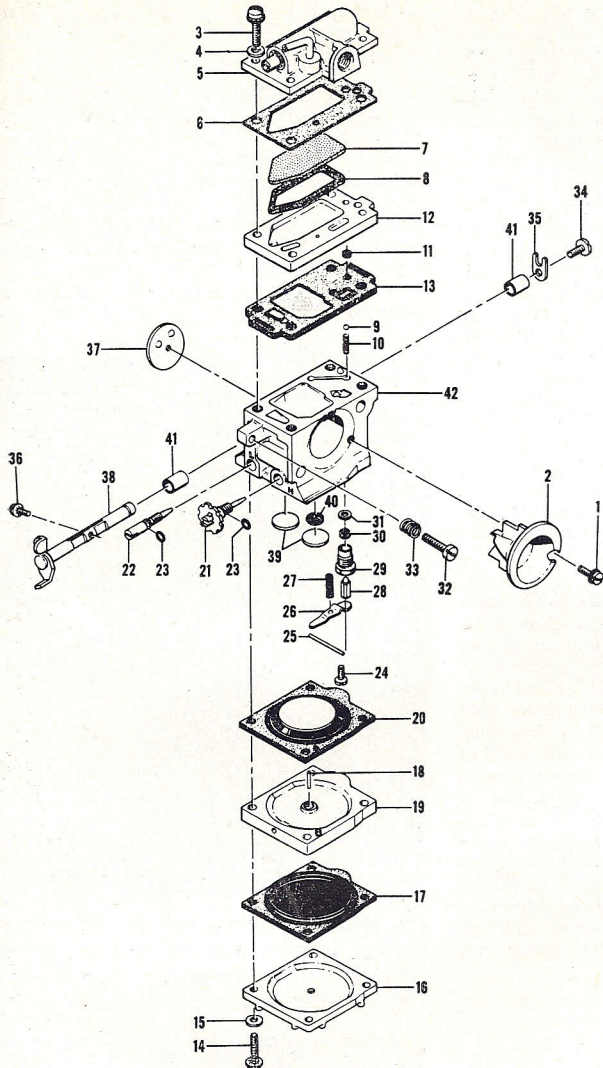

Fig. MC52 — Exploded view of McCulloch carburetor used on model BP-1 chain saw engine.
CARBURETOR. A McCulloch diaphragm type carburetor with integral priming and fuel pumps is used. Exploded view of this carburetor is shown in Fig. MC52.
Initial carburetor adjustment is one full turn open on both high and low speed needles. Make final adjustments with engine warmed up and running. (CAUTION: Never run engine over one-half throttle unless actually sawing.) Adjust the idle speed stop screw (32—Fig. MC52) until engine idles at just below clutch engagement speed which is about 3000 RPM. Then adjust slow speed needle (22) for best engine performance at this speed. Readjust high speed needle (21) if engine four-cycles when warm, will not